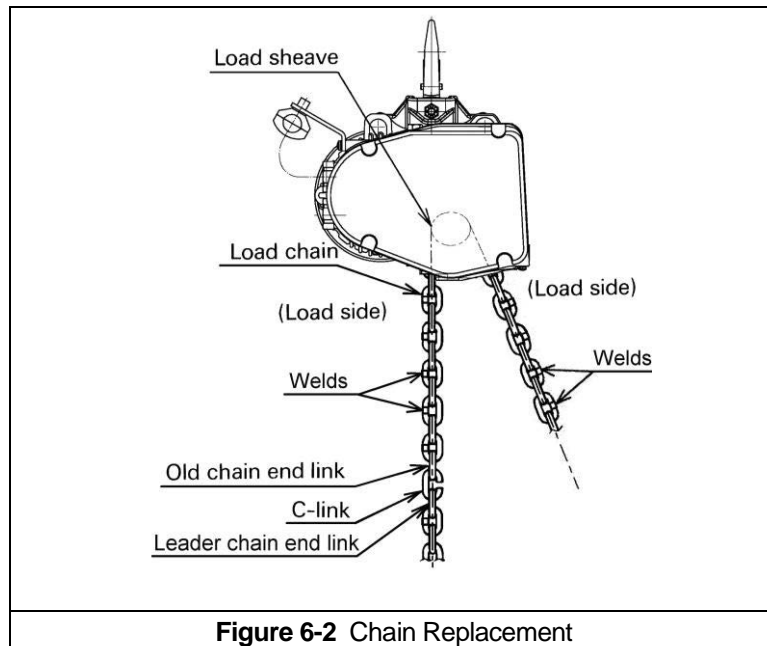

Figure 6-2 Chain Replacement
- 4) Using a C-link, attach the new chain to the end link of the old chain on the no-load side. The end link of the new load chain should be connected so that the welded portions of the load chain's standing links are oriented to the outside as they pass over the sheave. Refer to **Figure 6-2**.